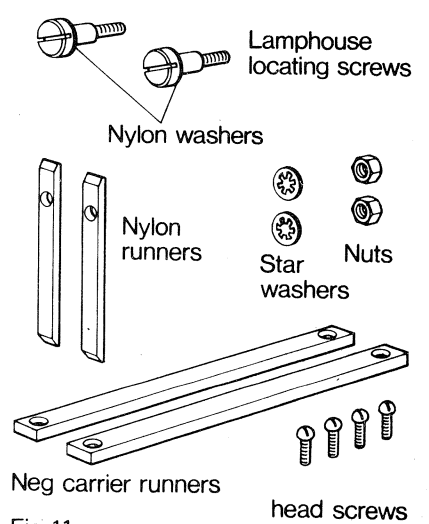

Fig 11
- 3.2.1 The mounting kit (Fig. 11) for the DURST 401 MkII COLOR HEAD consists of: